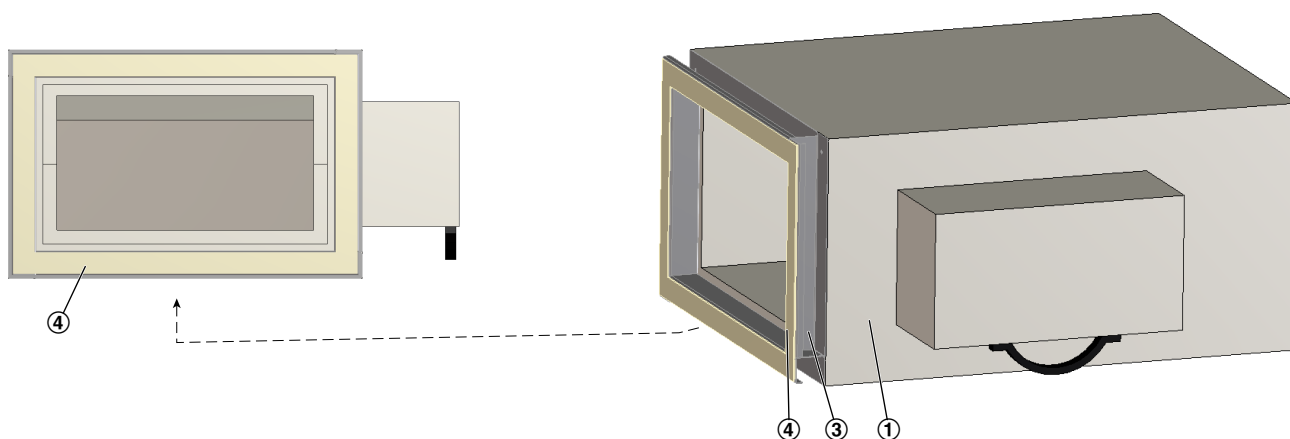

Fig. 4: EK2-EU Attach gasket
2. ▶ Attach 15 mm x 1,8 mm Promaseal-LW gasket ( Fig. 4 /4, by others) to the face of the connecting frame ( Fig. 4 /3).